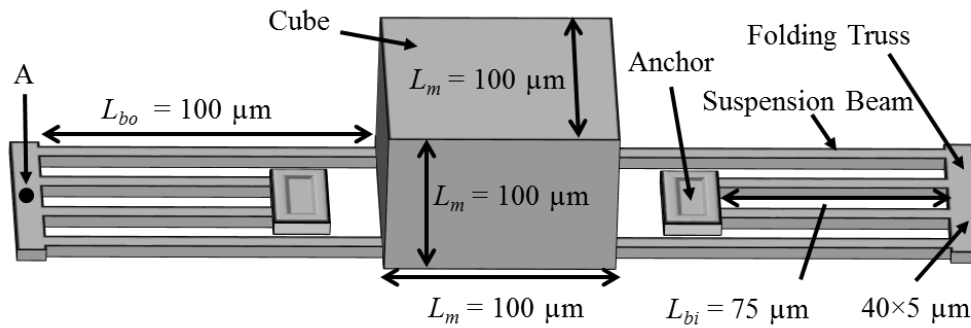

Fig. PS2.4
- 4) Figure PS2.4 presents the perspective view of a cube suspended 3 μm above the substrate by folded flexures anchored at the inner points indicated. The entire structure, including cube and all suspensions, is perfectly symmetrical and constructed of a single structural material, the properties of which are given in Table PS2.1. Also, as indicated in Table PS2.1, all suspension beam widths and thicknesses are 2 μm and 5 μm, respectively.